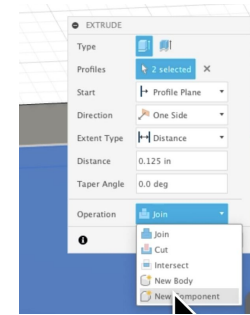

Figure 1.1
- In the extrude window, select '**New Component**' (not New Body) to ensure the lid is treated as its own part within the assembly (see Figure 1.1).